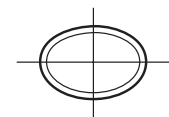

Fig.11
- The pipe to be machined should be cut square, have no step difference, and be free of deformities. If the pipe end is slanted or has a step difference, or if the pipe is deformed, it cannot be machined to the correct size of groove. (Fig. 11)